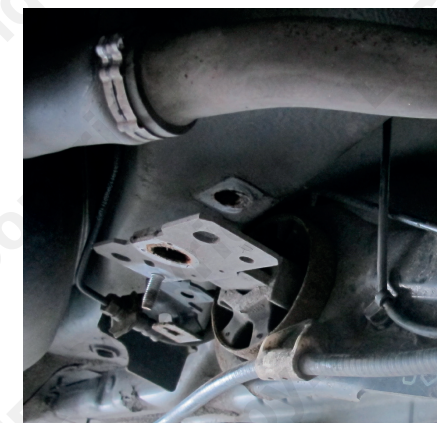

Fig 2
- Remove the trailing arm bush mounting as shown in **Fig 2**.